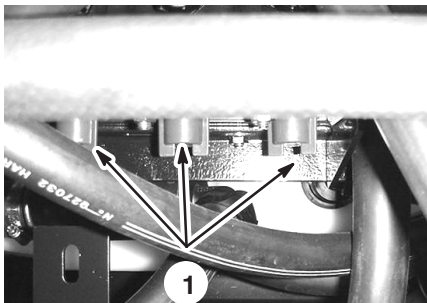

Figure 27
11. Adjust the boom bypass valve (Fig. 27) under the boom control valve for the boom you turned off until the pressure reading on the gauge is the same as it was in step 8.